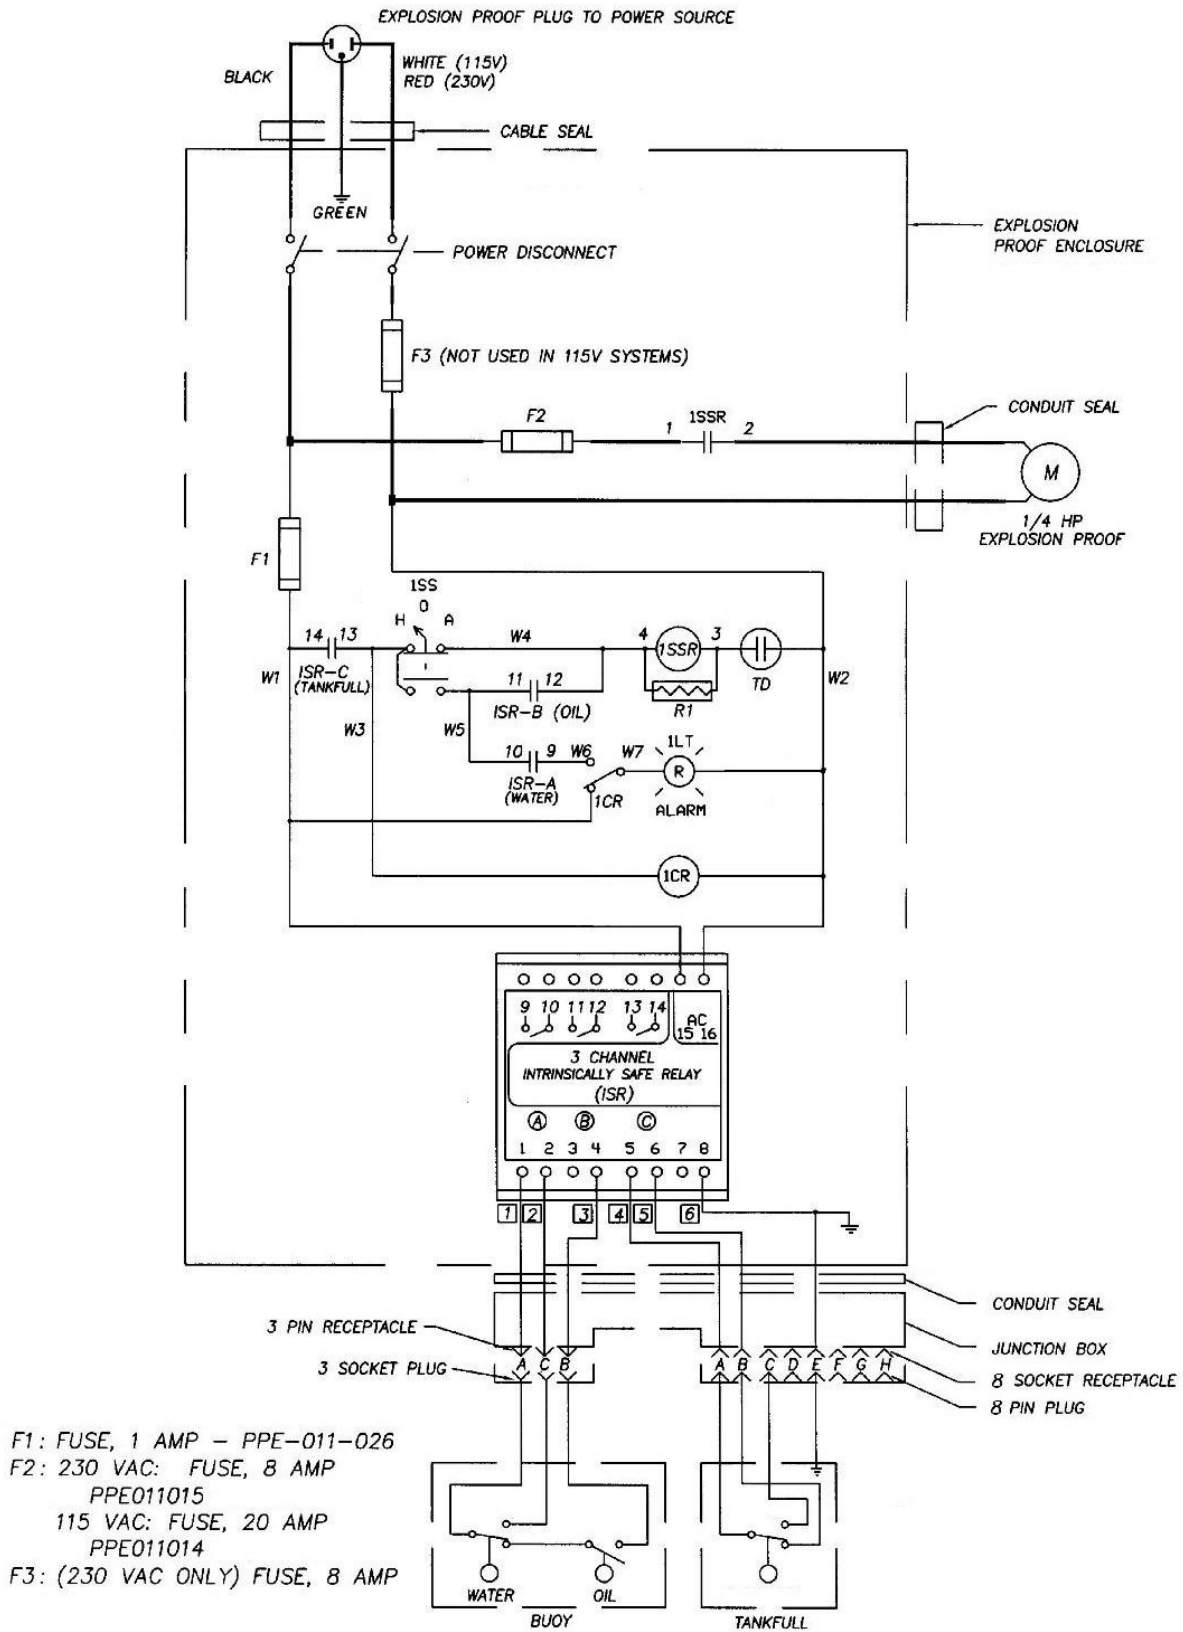

Figure 7-2 – Wiring diagram for the SWPS Control Module
6. If the fuses are good, transport the system to a nonhazardous location and use the following procedure to test the DPDT relay. Referring to Figure 7-2, Wiring Diagram, run a jumper from the Normally Open contact to the Common on the DPDT relay. Be careful not to short the switch contacts to the EP box. Apply power to the system. If the motor runs with the control switch in the HAND position the mechanical relay must be replaced.